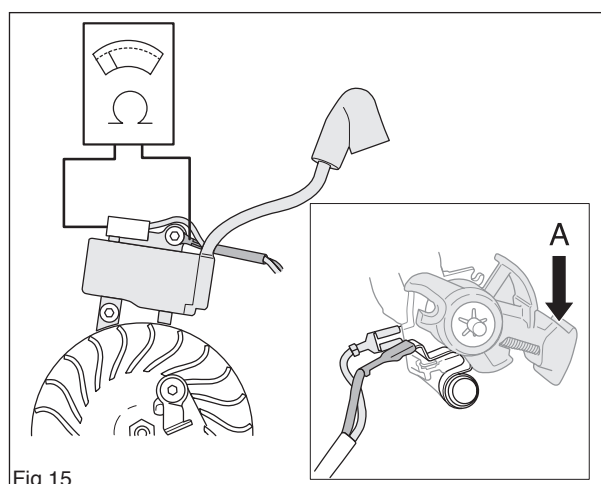
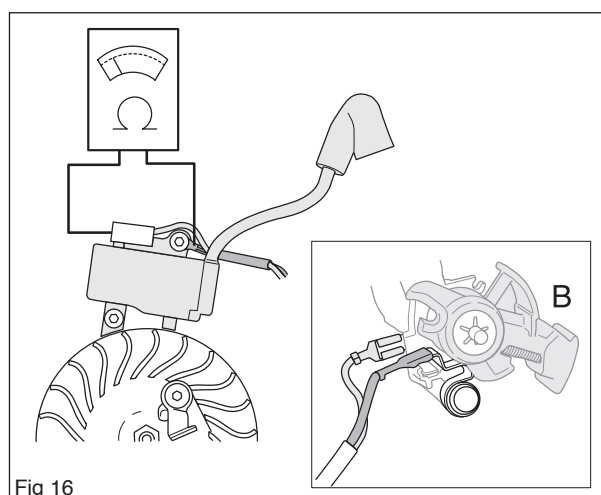

Fig 15
Fig 16
Measure the resistance by connecting a multimeter to the ignition coil. NOTE! The switch must be in the “on” (A) position to give the correct reading. (see figure 15)
The stop switch is in the on-position when the button is held down (A) (see figure 15) and in the off-position the button is neutral (B). (See figure 16)